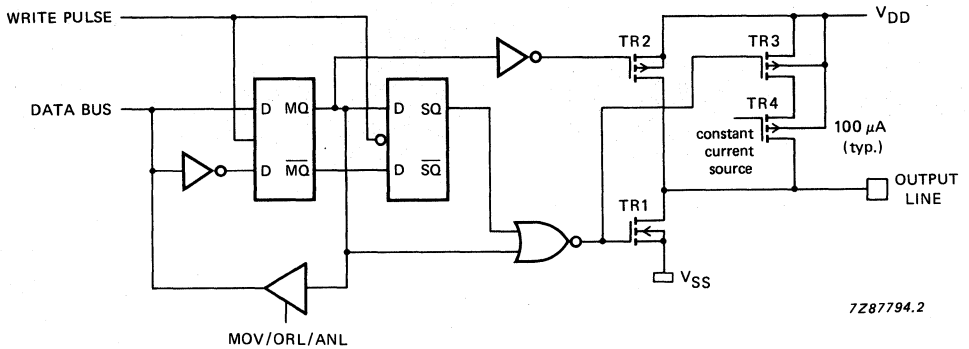

Fig. 12 Push-pull output.
- Option 3 – PUSH-PULL OUTPUT; drive capability of the output will be  $1.6\ \text{mA}$  (min.) at  $V_{DD} = 5\ \text{V}$  in both polarities. To avoid a large current flowing through the output transistors during the input mode, these push-pull pins must only be used as outputs (Fig. 12).